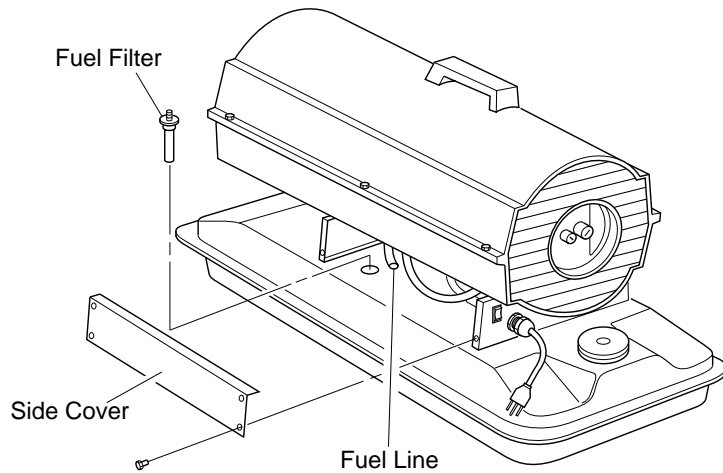

Figure 9 - Fuel Filter Removal, 35/50/70,000 Btu/Hr Models
3. Remove 4 side cover screws with a 5/16" nut driver. Remove side cover (see Figure 9 or 10, page 8).
12. Replace side cover (see Figure 9 or 10, page 8).